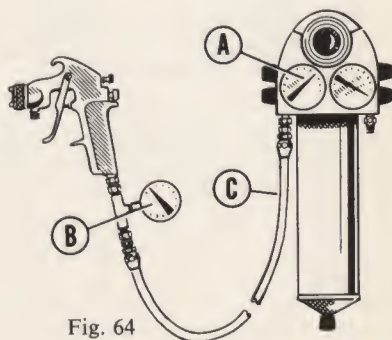

Fig. 64
That this friction is an important factor to consider is shown in the table on the accompanying page. These figures are based on the air consumption of a spray gun equipped with an air cap drawing approximately 12 cubic feet of air per minute at 60 pounds pressure. As illustrated at the right (Fig. 64), the difference between the regulated air pressure at the source (A), (in this case an air transformer), and the gun (B), is determined both by the size and length of the air hose (C).